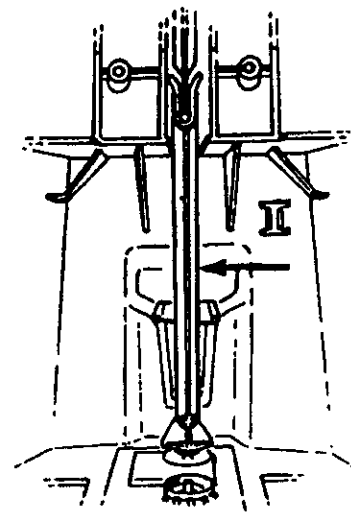

Fig. 24
1. Trapped in place by handle cover. Lift out to remove. (Fig. 24)